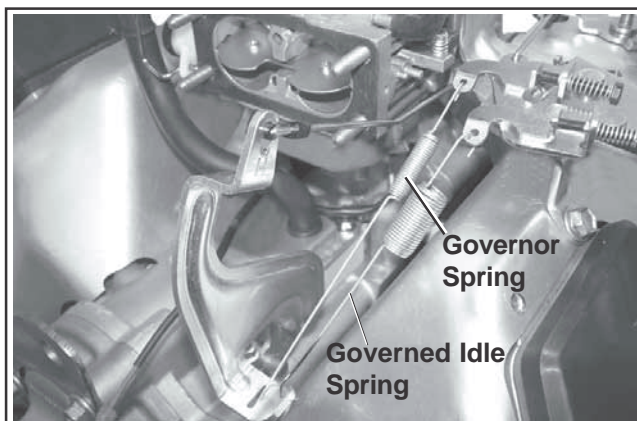
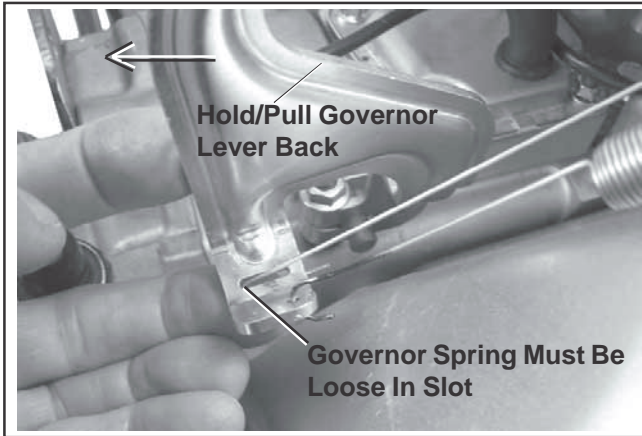

Figure 5-7. Governor Springs Installed.
Figure 5-8. Checking Spring Looseness.
A governed idle control system is used to maintain a desired idle speed regardless of ambient conditions (temperature, parasitic load, etc.) that may change. An outer secondary spring connected between the governor lever and the governed idle adjuster on the main bracket establishes the governed idle speed. See Figure 5-7.
1. Make sure the governed idle spring is in the outer hole in the governor lever and the hole in the governed idle (outer) adjuster. See Figure 5-7.
2. Make sure the governor spring is in the inner slot of the governor lever and the hole in the high speed (inner) adjuster. See Figure 5-7. Pull the governor lever **away** from carburetor to the limit of its travel and check that the governor spring is loose and not under any tension. See Figure 5-8. Turn the high-speed (RPM) adjustment screw counter-clockwise (if required) until spring is loose.